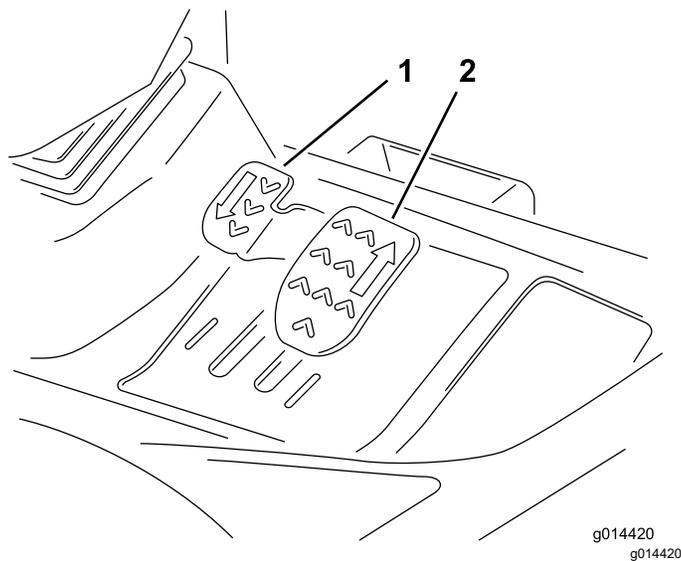

Figure 7
**Forward travel:** Press the forward traction pedal to drive the machine forward and increase ground speed. Release the pedal to reduce ground speed (Figure 7).
**Reverse travel:** Press the reverse traction pedal to drive the machine backward and increase ground speed. Release the pedal to reduce ground speed (Figure 7).